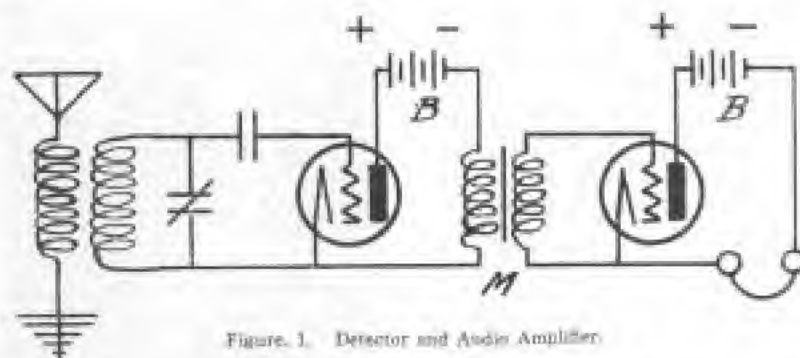
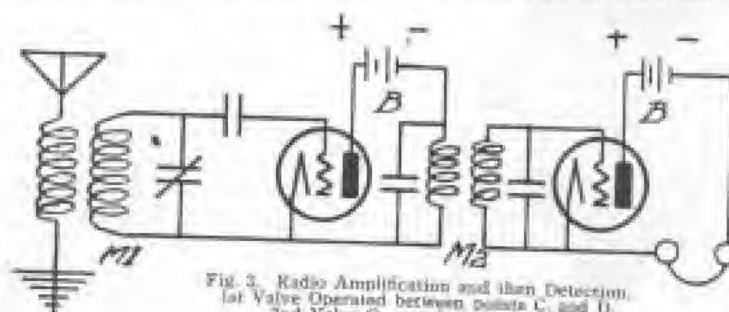

Figure 1. Detector and Audio Amplifier.
Fig. 2. Radio Amplification and then Detection. 1st Valve Operated between points C. and D. 2nd Valve Operated about point B.
In a case where reception is quite successful with only a detector tube, but louder signals are desired, the manner of adding one stage of audio-frequency is shown in Figure 1. "M" is a small iron core transformer, the ratio of the primary winding to the secondary being about 1 to 3. The electrical characteristics of the primary winding should be the same as those of a pair of phone receivers. The first tube is adjusted to function as a detector, that is, it is working on the bend of the grid voltage-plate current curve. The second tube, however, is operated on the straight part of the curve, and a glance at Figure 2 will show why this is done.
It has to be remembered that whatever is detected by the first tube must be faithfully reproduced by the second tube, but with increased amplitude. If reference is made to the straight part of the curve between points "C" and "D" in Figure 2, it will be seen that such faithful reproduction is achieved when the valve is so adjusted. The incoming variations actuating the grid are repeated in the plate circuit, without distortion, but with considerably more volume—this is the very action we need, in fact, as will become evident by experience, any difference of potential applied to the grid will be reproduced in this manner.
M.2 is practically the same thing. The first tube is adjusted for amplification—i.e., straight line operation between points "C" and "D" in Figure 2, while the second is for detection, to be adjusted about point "B" on the curve in Figure 2. The tuning units are all set for some definite wave-length, and the following action takes place:—The radio-frequency waves are conducted to the first tube, and, without detection, are repeated, with